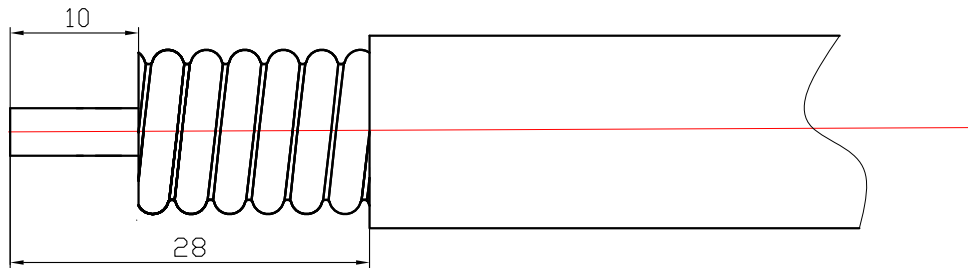

Fig. 6
3. Cut the outer conductor and insulation layer of the cable with special tools, and peel off the outer conductor and insulation layer with pliers after the ring cutting. Cut the outer conductor size to 10mm, as shown in Fig. 6